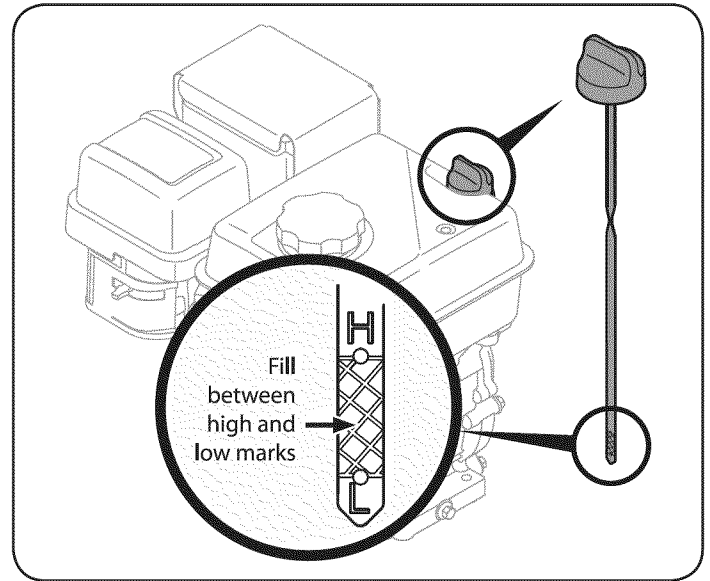

Figure 22
2. Remove the oil fill dipstick. See Figure 22.